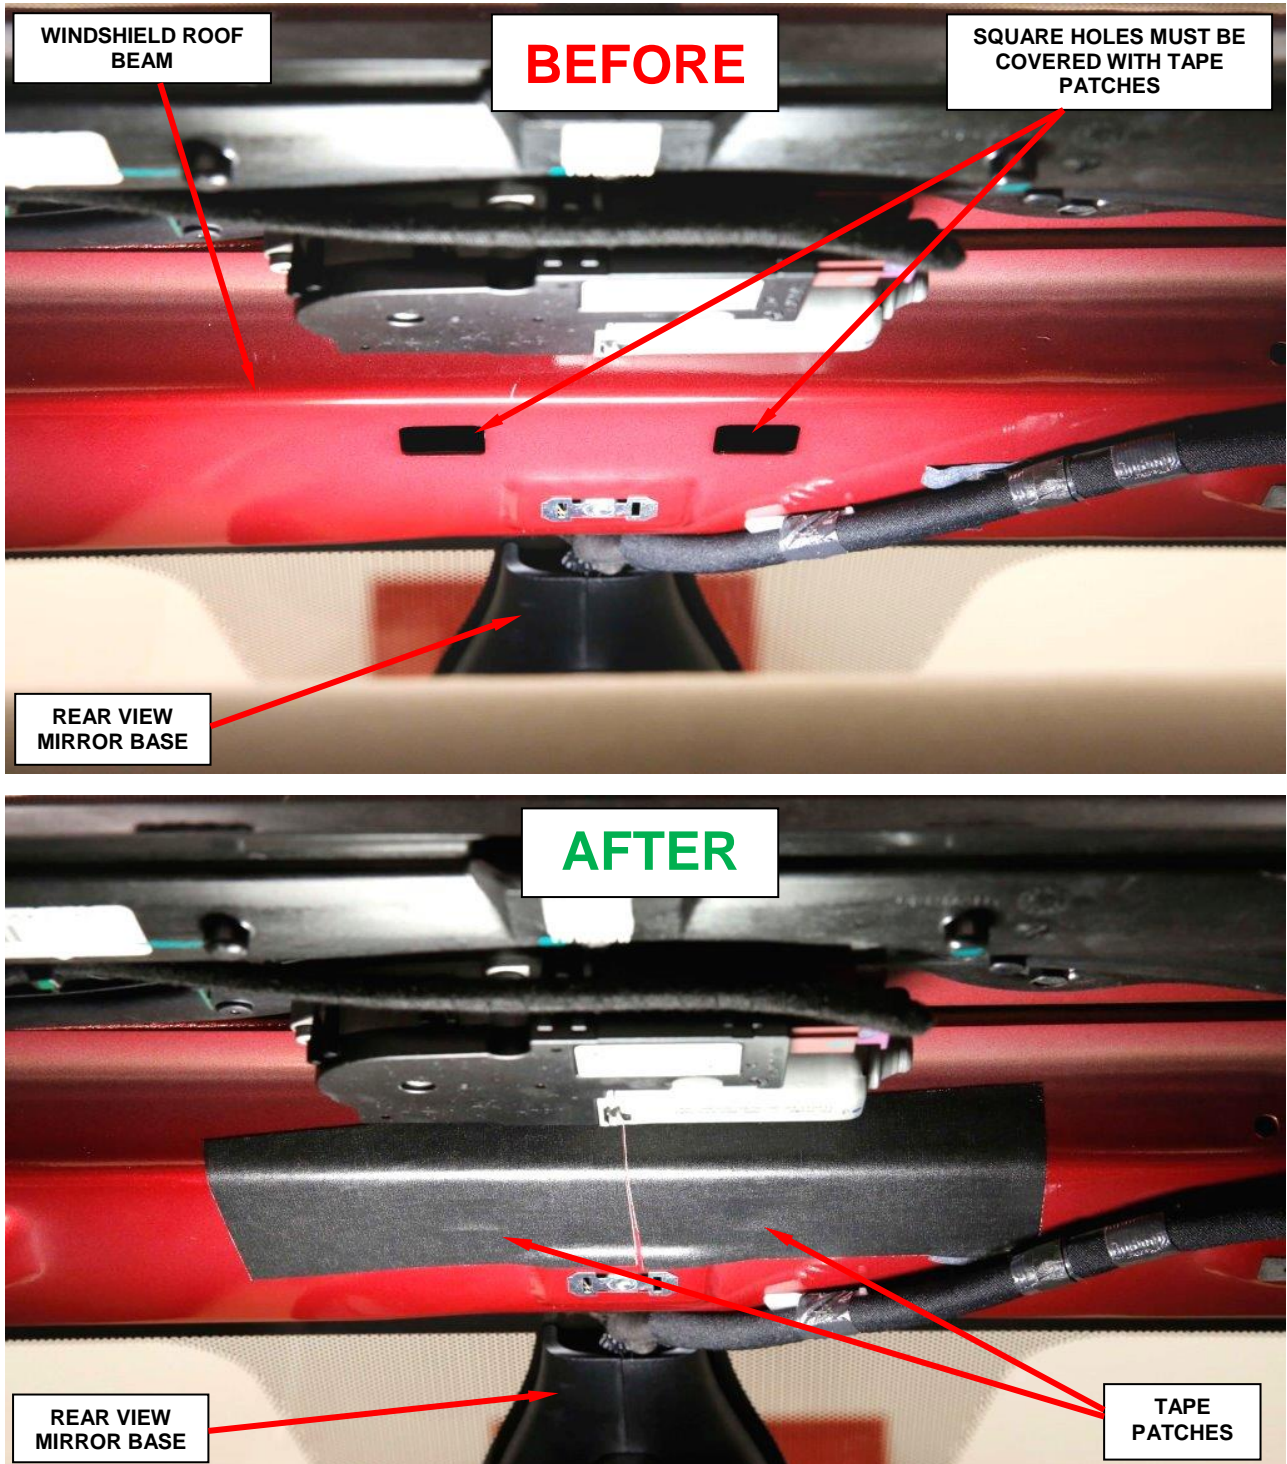

Figure 24 – Apply One Tape Patch Over Each Square Hole in the Windshield Roof Beam (vehicle with sunroof option shown)
- 51. Apply two tape patches over the square holes in the center of the windshield roof beam (Figure 24).